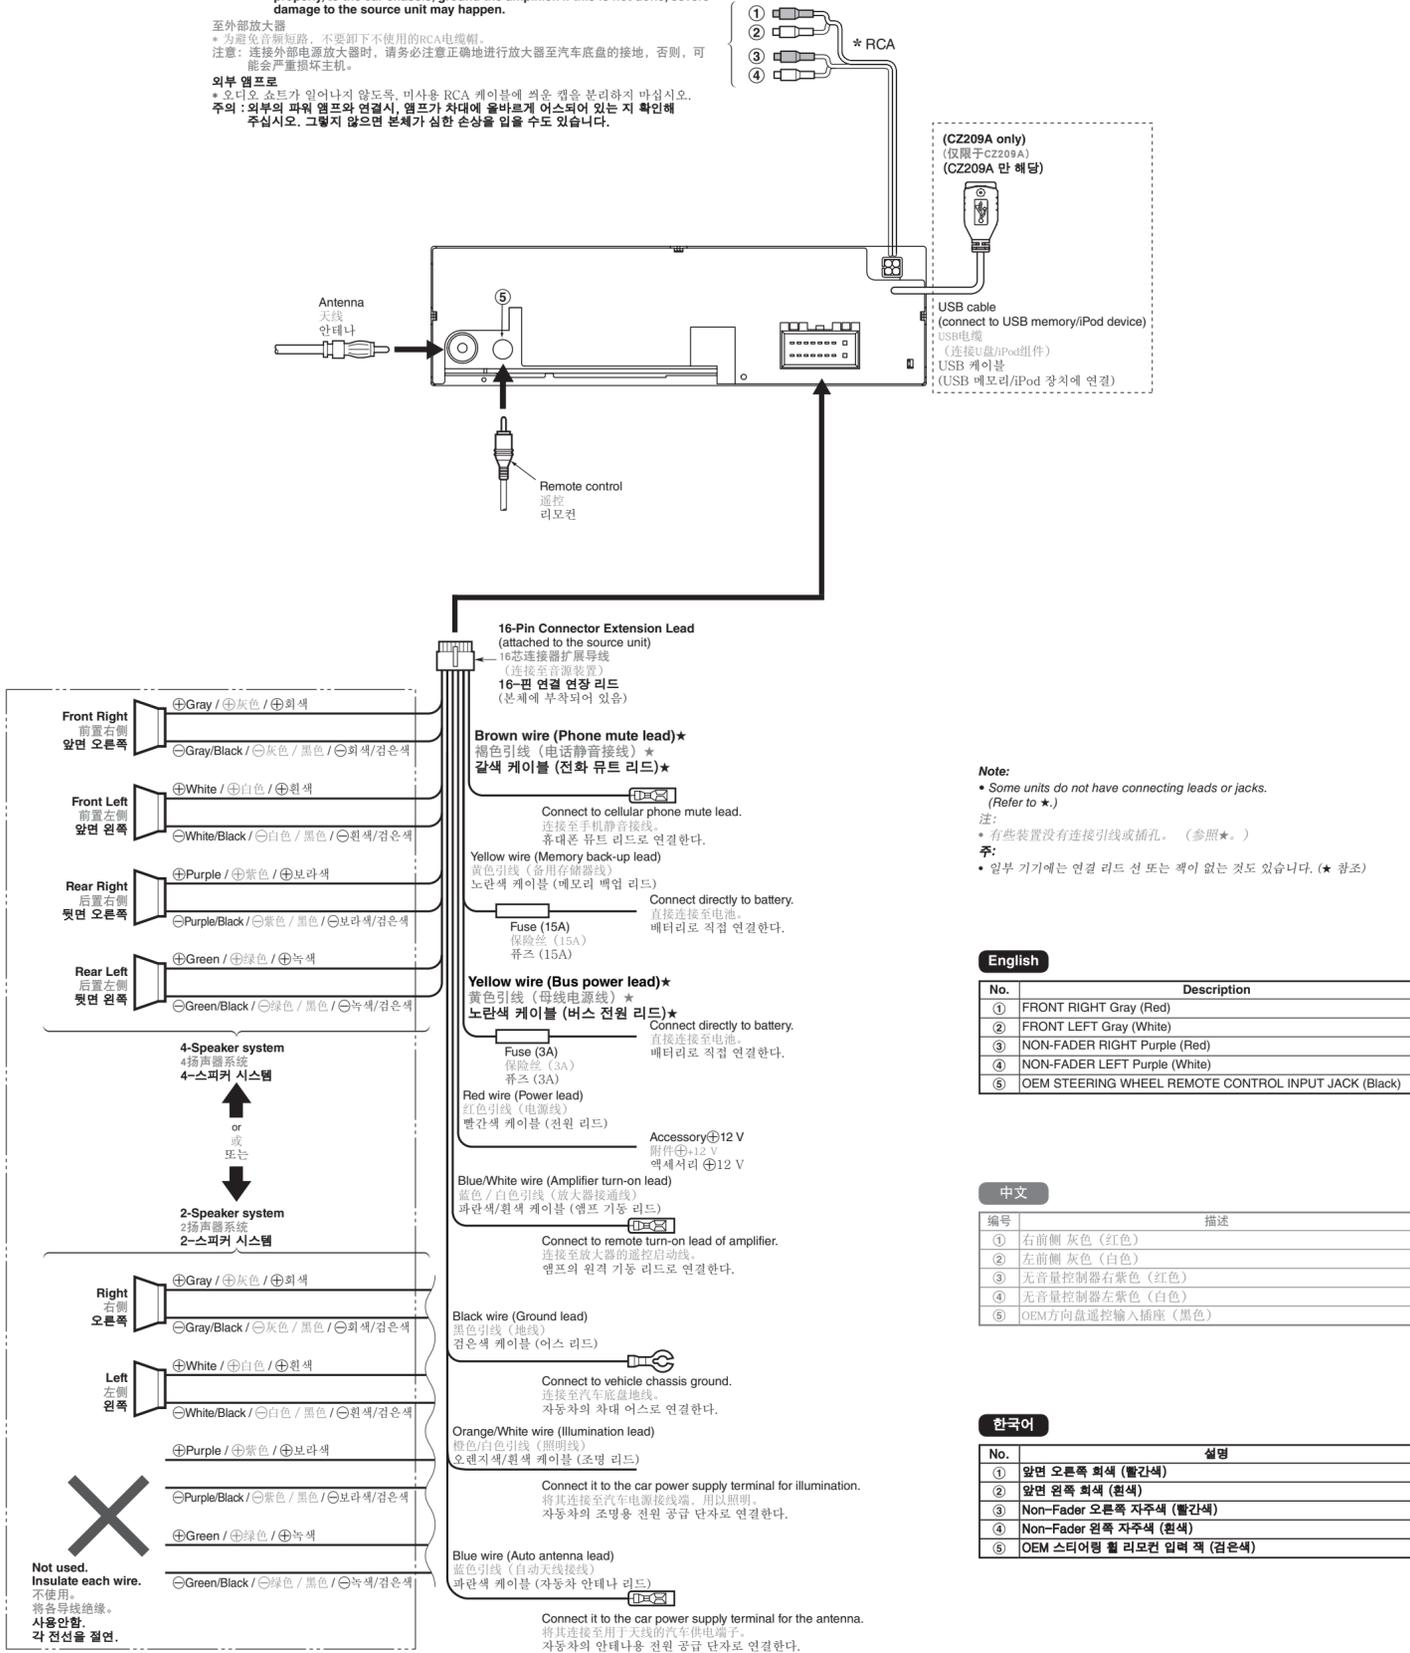

Figure 10 / 图 10 / 그림 10
- If it is, replace the fuse with a new one with the same amperage rating as the original one. (Figure 10)
- 如果接线正确，则请用与原来保险丝额定安培数相同的新保险丝更换。(图10)